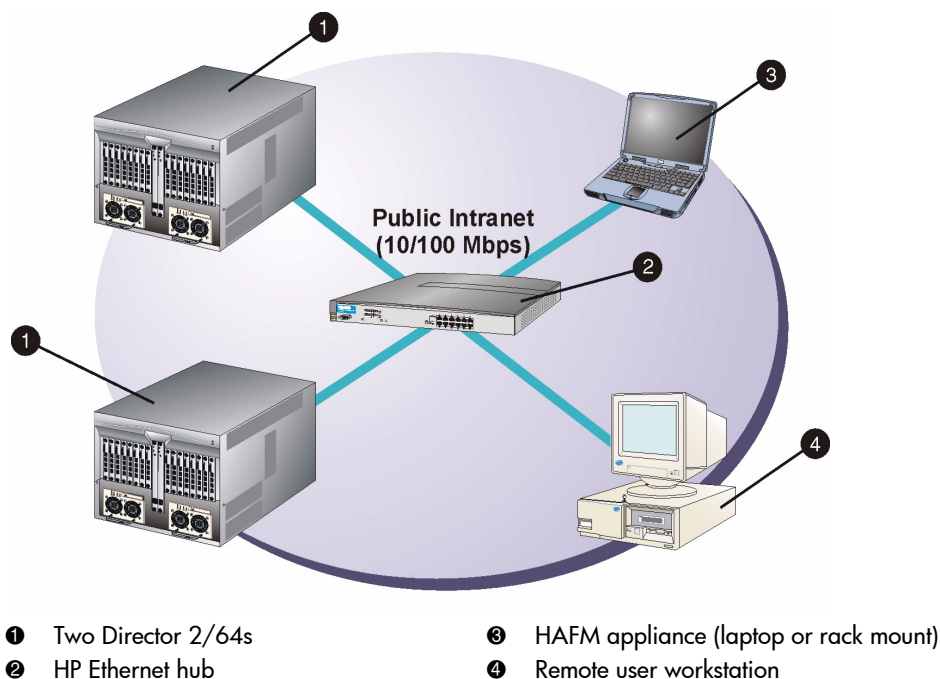

Figure 55: Typical network configuration (one Ethernet connection)
- Part of the customer's public 10/100 Mbps LAN segment that provides access to managed directors and switches. This product-to-HAFM appliance Ethernet connection is part of the equipment rack installation and is required. Connection of remote workstations through the hub is optional. This type of network configuration using one Ethernet connection through the HAFM appliance is shown in Figure 55. Director 2/64s are used as an example.